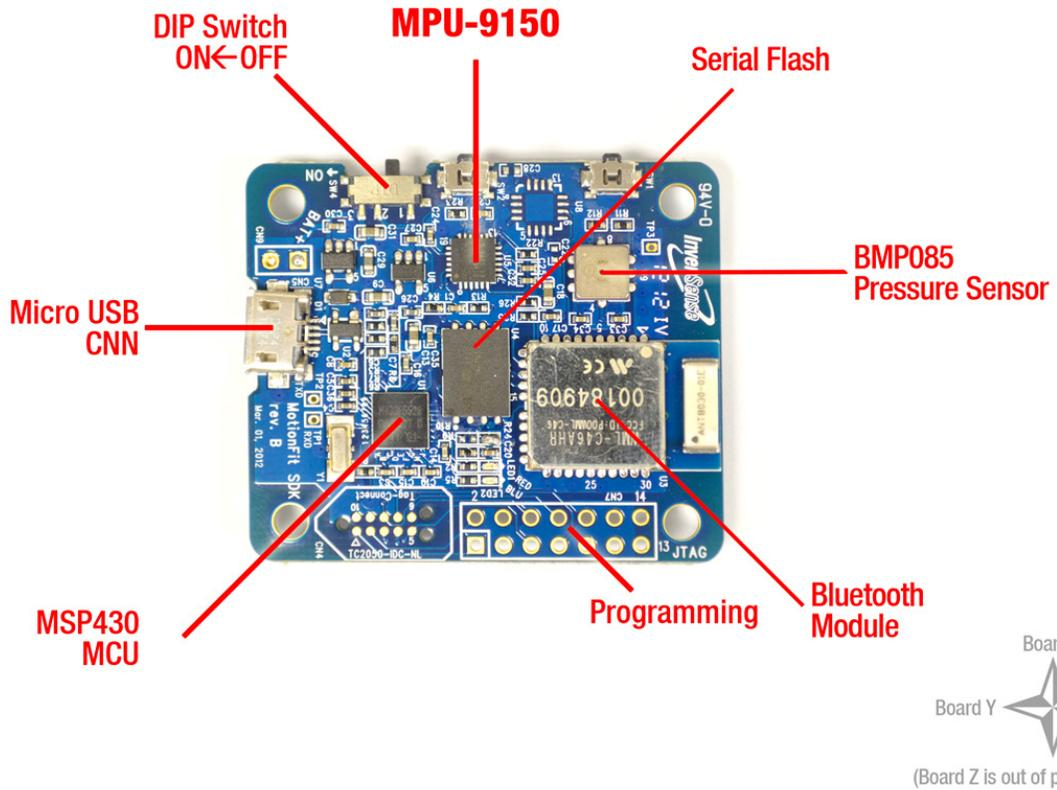
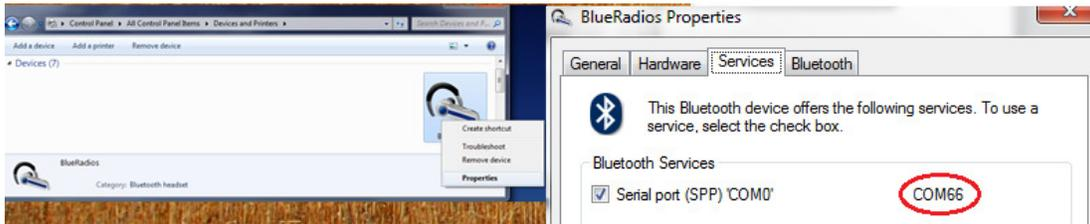

Figure 4.1.0 MPU 9150 MotionFit™ Board
Figure 5.1.1 Right click the added device to go to properties and check the port number (Step 4)
1. The Teapot demo software is included in the package which is a PC based application that rotates the teapot based on the MotionFit™ SDK. The mounting matrix for the device assumes the direction as in the figure 4.1.0. The board connects to the PC based on the Bluetooth link. Teapot demo software is provided with source as well.
Charge the unit via USB connector for about 2 hours. Turn on the SDK using the DIP switch on the board. Check the figure 4.1.0 for the ON and OFF positions of the switch.
1. Configure the Bluetooth interface on the PC. Go to “*control Panel\All Control Panel Items\Devices and Printers*” then choose “*Add a device*” and choose blue “BlueRadios” device. (figure 4.1.0)
4. Go to the Control Panel\All Control Panel Items\Devices and Printers\ to properties and check the port number of the Bluetooth serial port (figure 5.1.1). In this example the port number is 66, but we will call it just **COM#** from now on. After successfully pairing, power cycle the MotionFit™ SDK once by flipping the DIP switch OFF and ON as in figure 4.1.0.
Where <comport> is the COM# as described in figure 5.1.1